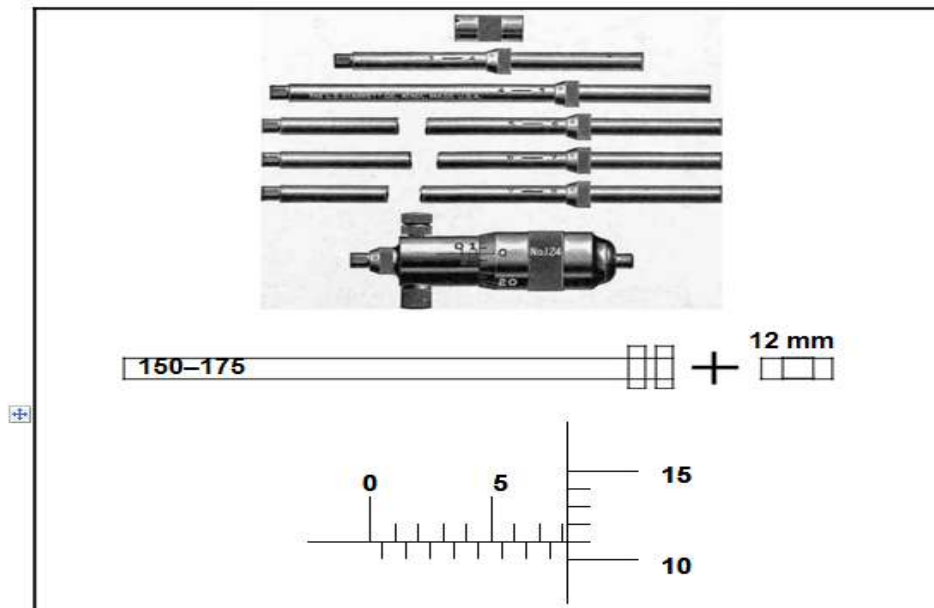

FIGURE 5.1 (3)
5.3 Determine the reading displayed on the inside micrometer shown in FIGURE 5.1 below.